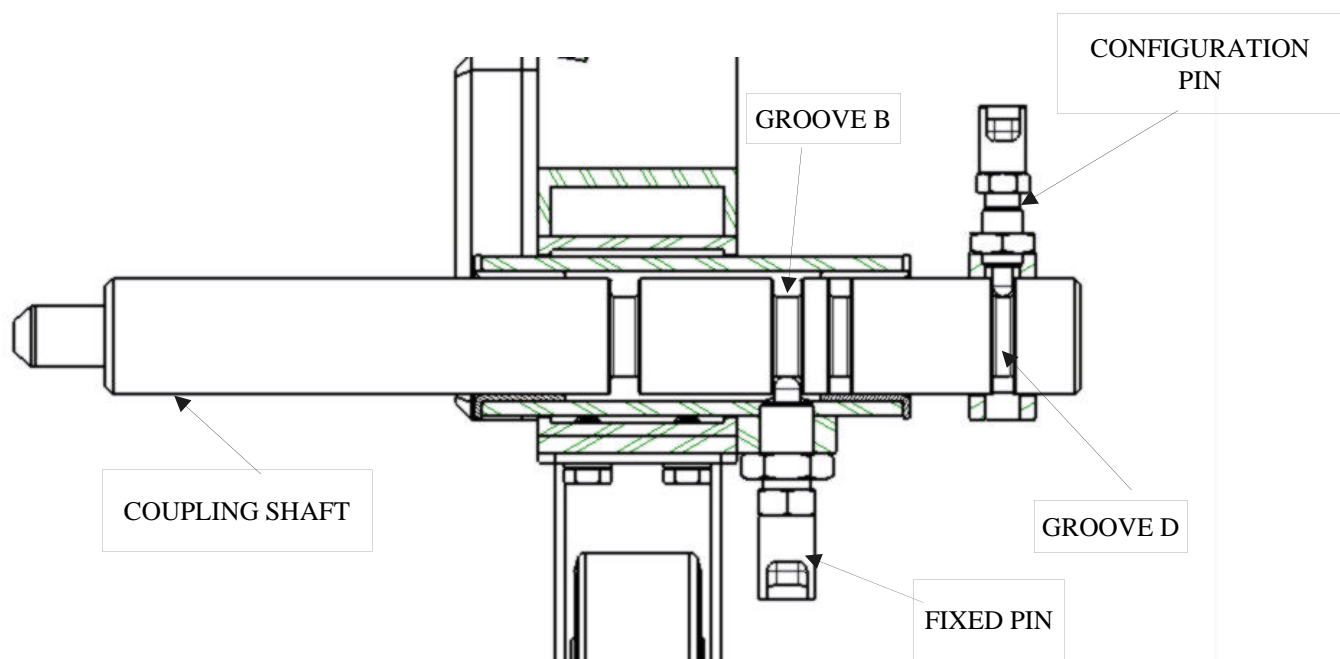

Figure 14: Tow Bar Assy: coupling device set for landing gear without PAD/SKI
1. Fixing the configuration pins in the white colored groove D, (see Figure 14).
The setting of a coupling shaft should be done as follows (refer to Figure 14):